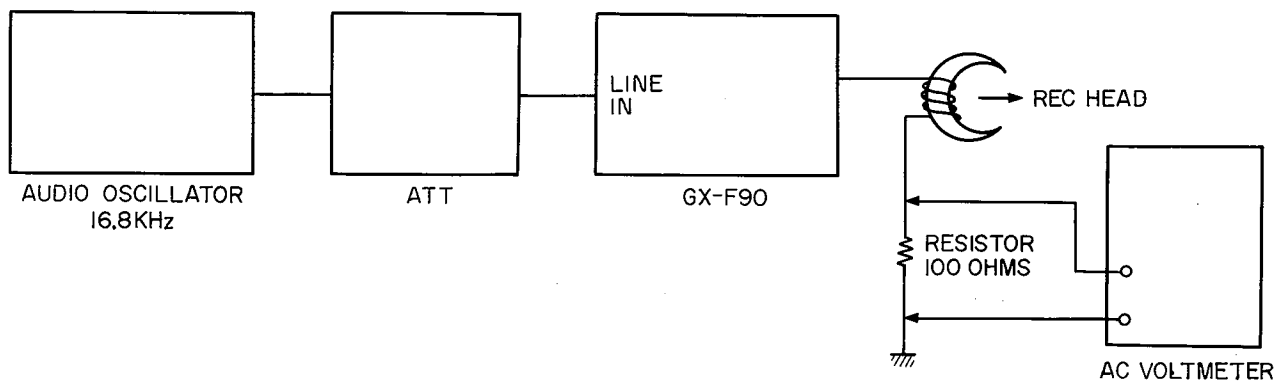

Fig. 25 Instruments Connection
8. Stop the recording bias oscillator while making record peaking adjustment (Refer to Figs. 25, 26).